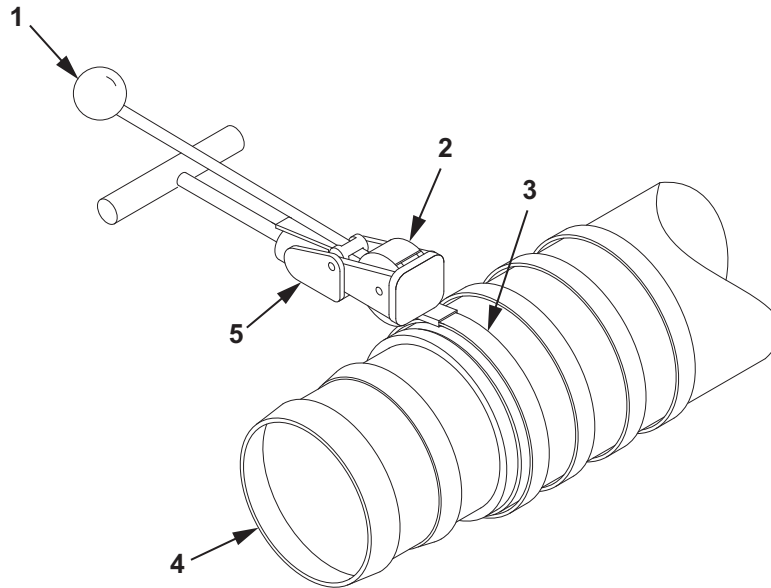

Figure 20. Hose Assembly Repair.
52. While holding the clamping tool handle (Figure 20, Item 1) in the down position, strike the center punch anvil (Figure 20, Item 2) three to four times with a hammer.
53. While still holding the clamping tool handle (Figure 20, Item 1) in the down position, raise the entire clamping tool (Figure 20, Item 5) up to shear the tail of the band off of the clamp (Figure 20, Item 3).
54. Using hammer, tap the edge of the distorted clamp (Figure 20, Item 4) down to a level configuration.
55. Repeat this procedure to splice the other hose assembly section to the hose splice (Figure 20, Item 5).